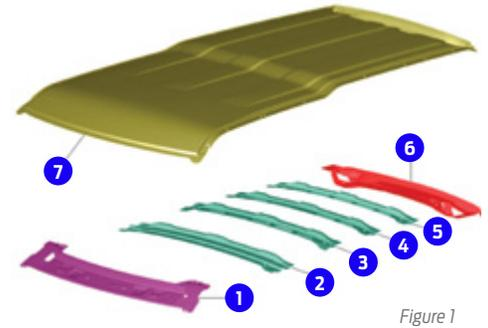

Figure 1
### Roof (Figure 1)
3. With the help of an assistant, place the new pickup bed floor panel on a stable base and on both sides, install and properly position and clamp the inner wheelhouse, using locking pliers. With a 6.5 mm drill bit, drill guide holes on both sides, then install the blind rivets (W707638-S900C) using a rivet gun. (Figure 1)